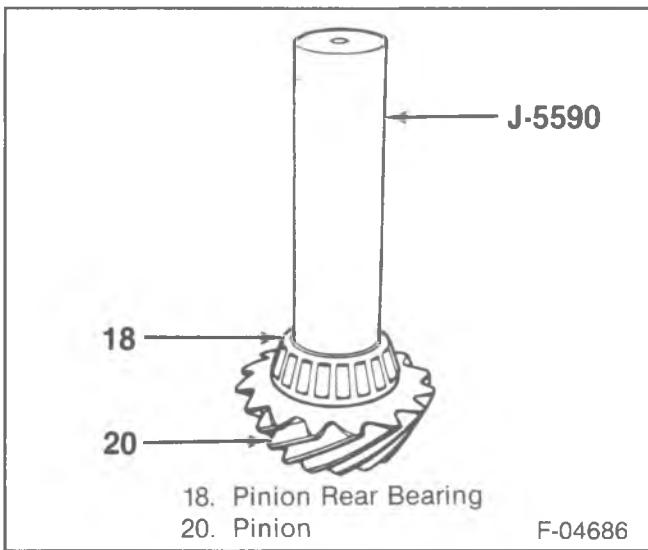

Figure 14—Pinion inner bearing installation
- The pinion inner bearing (18) using J-5590 (figure 14).
- A new collapsible spacer (17).
- Pinion (20) to the axle housing.
- Outer pinion bearing (15) onto the pinion using J-5590.
- Pinion oil seal (14) using J-23911.
- Pinion flange (13) to the pinion by tapping it with a rawhide hammer until a few threads show through the pinion flange.